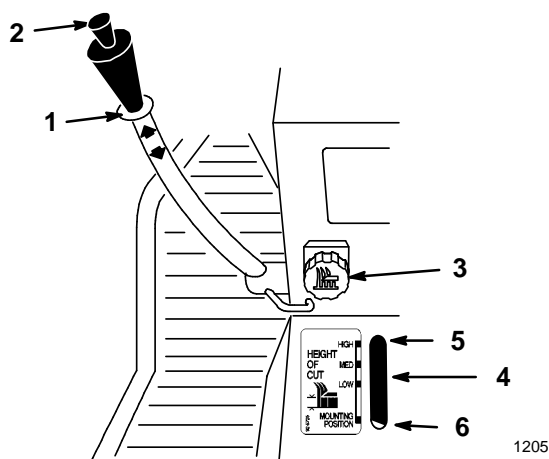

Figure 11
The attachment lift lever (Fig. 11) is used to raise and lower various attachments.
The Dial-A-Height control (Fig. 11) is used to limit the downward travel of the attachment. The Dial-A-Height knob is rotated to change the location of this stop, up or down.
1. Raise the attachment lift lever: Refer to Raising Attachments. In the raised position the Dial-A-Height knob (Fig. 11) can be rotated to change the stop location. Turn clockwise to raise and counterclockwise to lower the height of the attachment.
2. The Dial-A-Height indicator (Fig. 11) will show the change, high to low, in attachment lift height as adjustment is made.